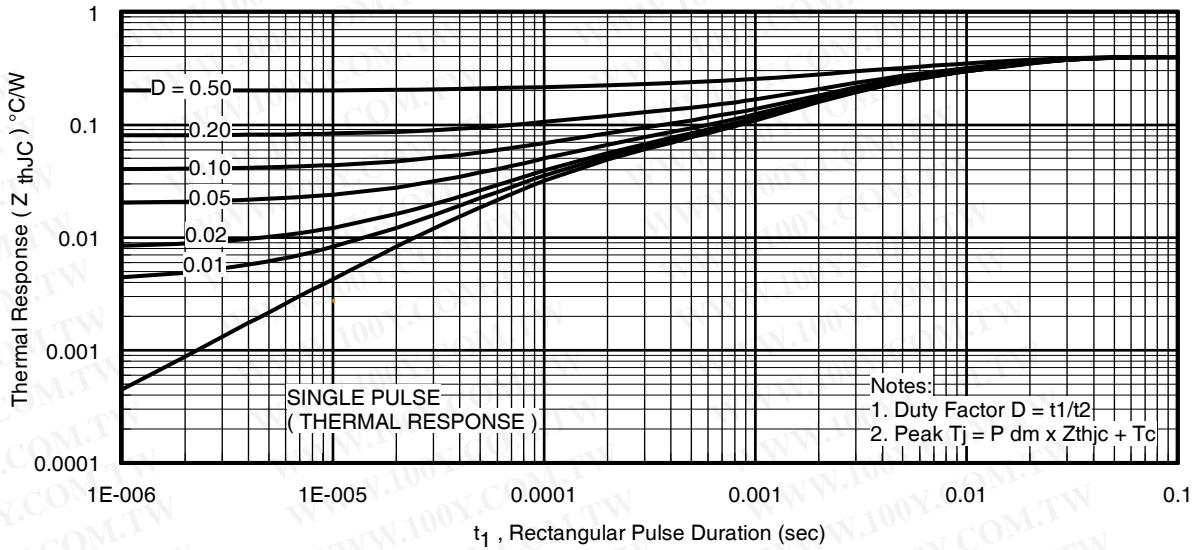

Fig 14. Maximum Effective Transient Thermal Impedance, Junction-to-Case
Notes on Repetitive Avalanche Curves, Figures 14, 15:
7. ΔT = Allowable rise in junction temperature, not to exceed T_{jmax} (assumed as $25^\circ C$ in Figure 14, 15).